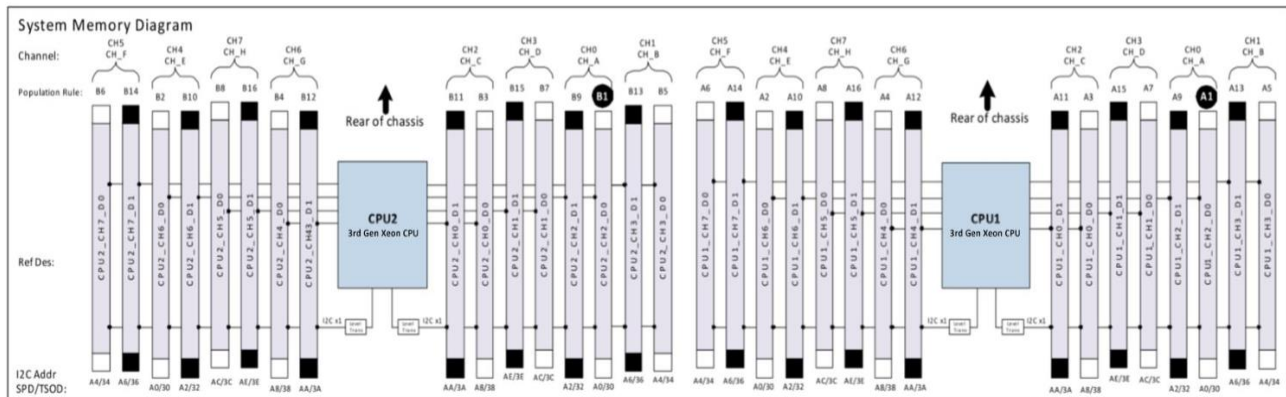

Figure 2: Decoding DIMM lettering/numbering to Channel lettering/numbering
- Memory slots host individual memory modules, such as DIMMs or DCPMMs. Xeon processors have two slots per channel, so there are a total of sixteen slots per CPU for memory module population. As seen in Figure 2, for CPU1, DIMM 0 slots A1-A8 (the white slots) are the first eight memory modules to be populated, while DIMM 1 slots A9-A15 (the black ones) are the last eight to be populated. Similarly, for CPU2, DIMM 0 slots B1-B8 (the white slots) are the first eight memory modules to be populated, while DIMM 1 slots B9-B15 (the black ones) are the last eight to be populated. DIMM slot/channel numbering can also be referenced in Figure 3.